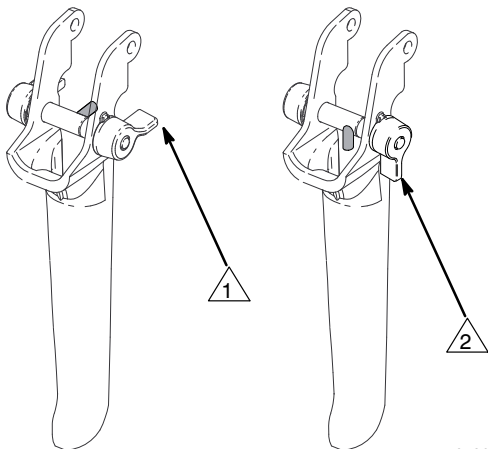

Fig. 4
When engaged, the gun safety latch prevents the gun from accidental triggering. See Fig. 4.
4. **Turn the pressure knob (64) to the minimum setting.**
5. **Disengage the gun trigger safety.** See Fig. 4, page 7.